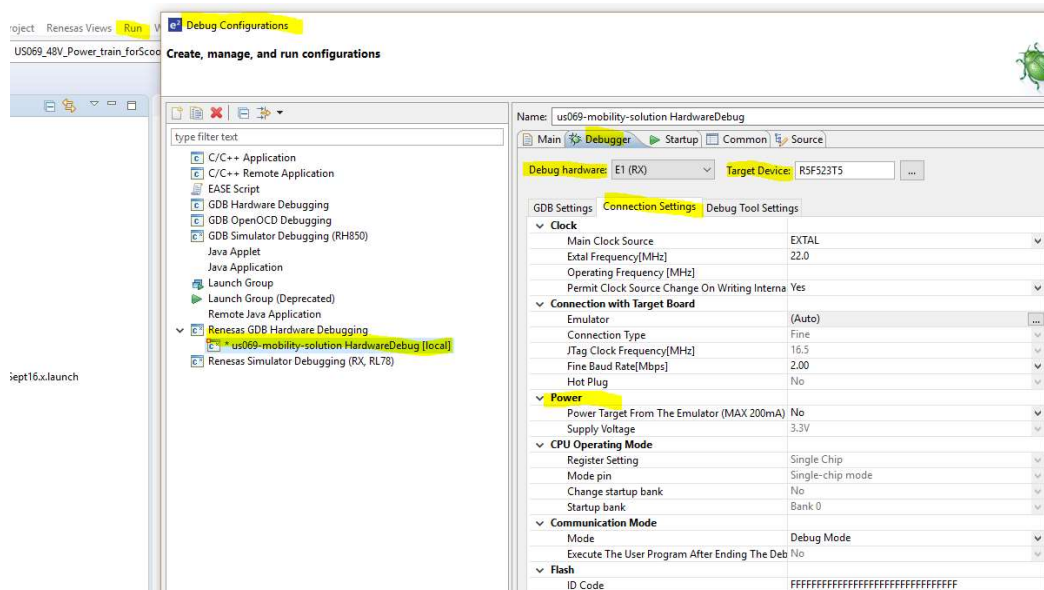

Figure 6-5: Setup the debug environment
Under the Run menu, choose Debug Configurations. Select the .x file under the Renesas GDB Hardware Debugging. Select the Debugger tab followed by the connection settings. Under the Power drop down, the *Power Target from The Emulator* should read a NO setting. The Target device is the R5F523T5. The Debug Hardware is E1 (RX) or E2. Apply and Close window. (Figure 6-5)